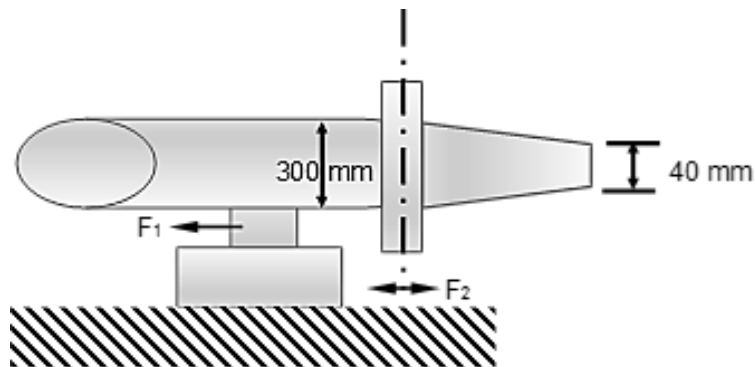

FIGURE 4
- 2.4. FIGURE 4 below shows a pipeline with an internal diameter of 300 mm that terminates in a nozzle opening with a diameter of 40 mm. Water pressure in the pipeline is 480 kPa and the coefficient of velocity is 0,97. ◆